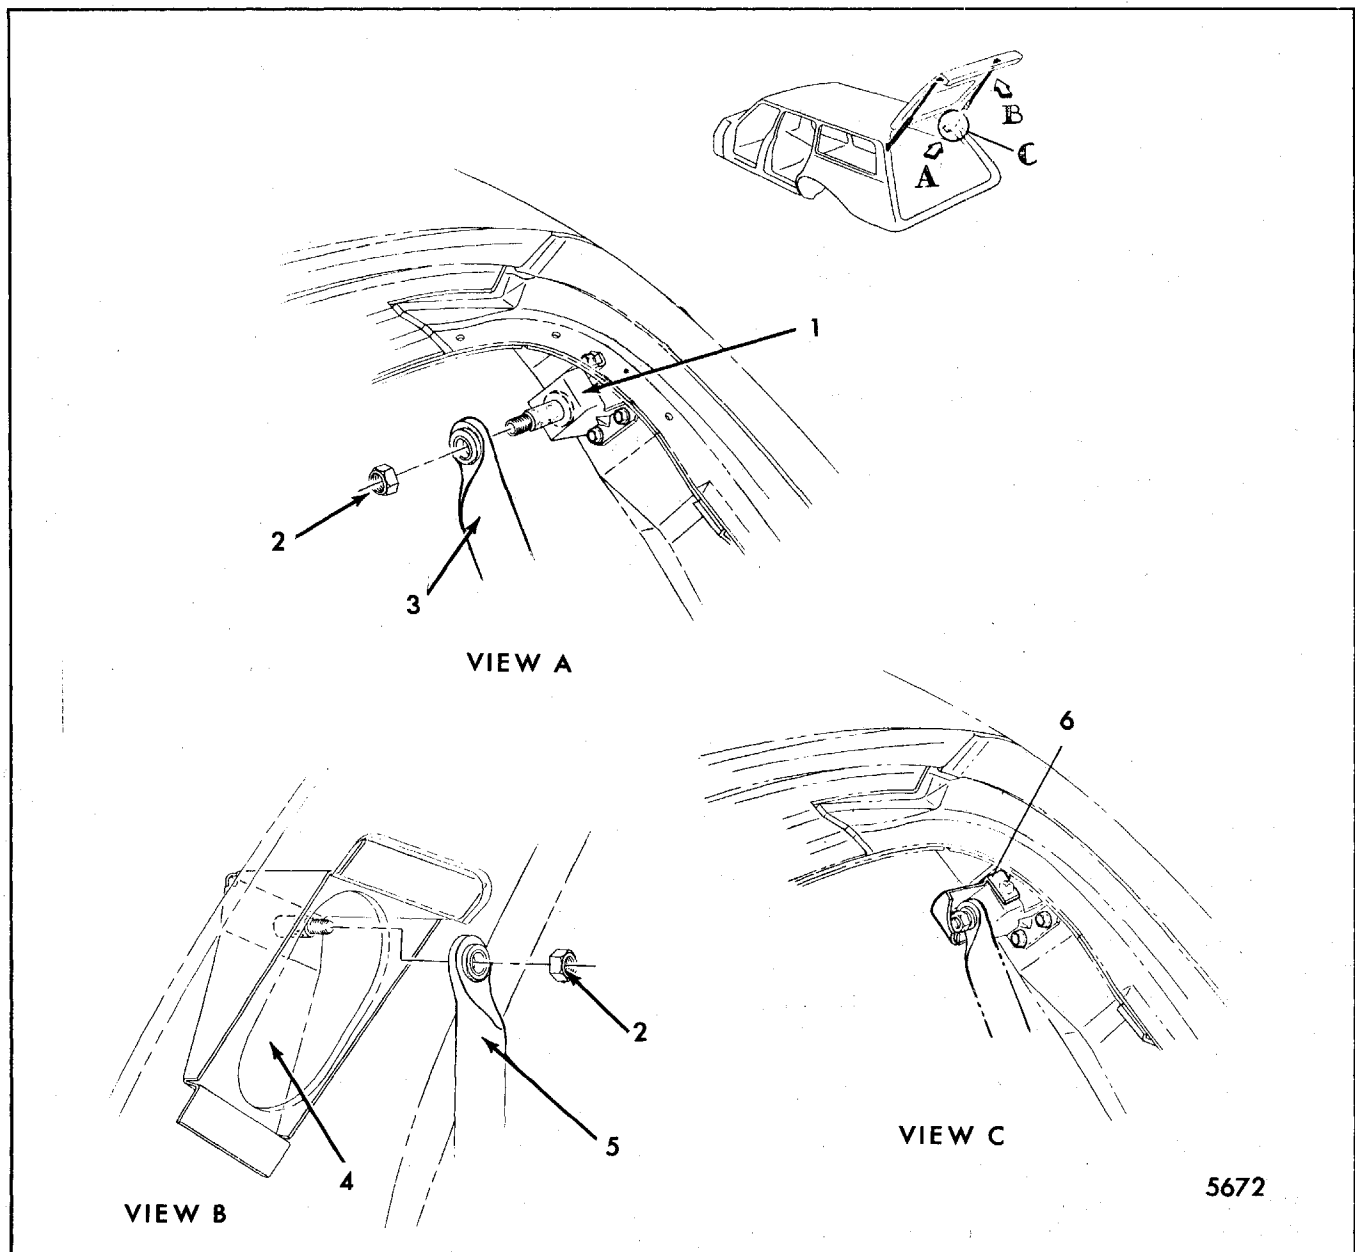

Fig. 7-115-Counterbalance Support Assembly Attachment
3. Remove pillar anchor plate cover screws and slide cover from pillar and/or plate (Fig. 7-115).
4. While helper supports gate in fully open position, remove counterbalance support assembly attaching nut and disengage from tailgate and pillar anchor plate (Fig. 7-115).
A shoulder bolt welded onto a bracket forms the anchor plate. The anchor plate is bolted to back body pillar near the roof at each side of the opening (View A, Fig. 7-115). A metal cover is secured by screws to the pillar anchor plate after the counterbalance support assembly is attached. The function of the anchor plate cover is to entrap the counterbalance support assembly if the anchor plate shoulder bolt shears or attaching torque-tight nut works loose (Fig. 7-115).